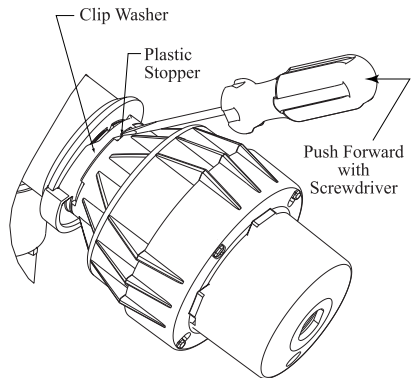

Figure 22.
6. With the end of a flat head screw driver, push the plastic stopper in the clip washer forward towards the front of the light, see Figure 22.
- 5. With the end of a flat head screw driver, push the plastic stopper in the clip washer forward towards the front of the light, see Figure 22.